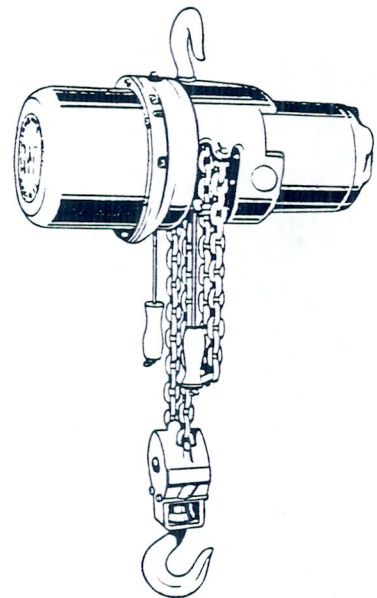

FIG. 1
**HOOK MOUNTING** — All models of the "JC" Hoist are equipped with drop-forged swivel-type mounting hooks. (Fig. 1.) Suitable for use with any type of stationary support, the hook enables the operator to select the proper lifting position for safe hoisting operations. Anti-friction bearing swiveled load hooks are furnished with both single chain and double chain units.